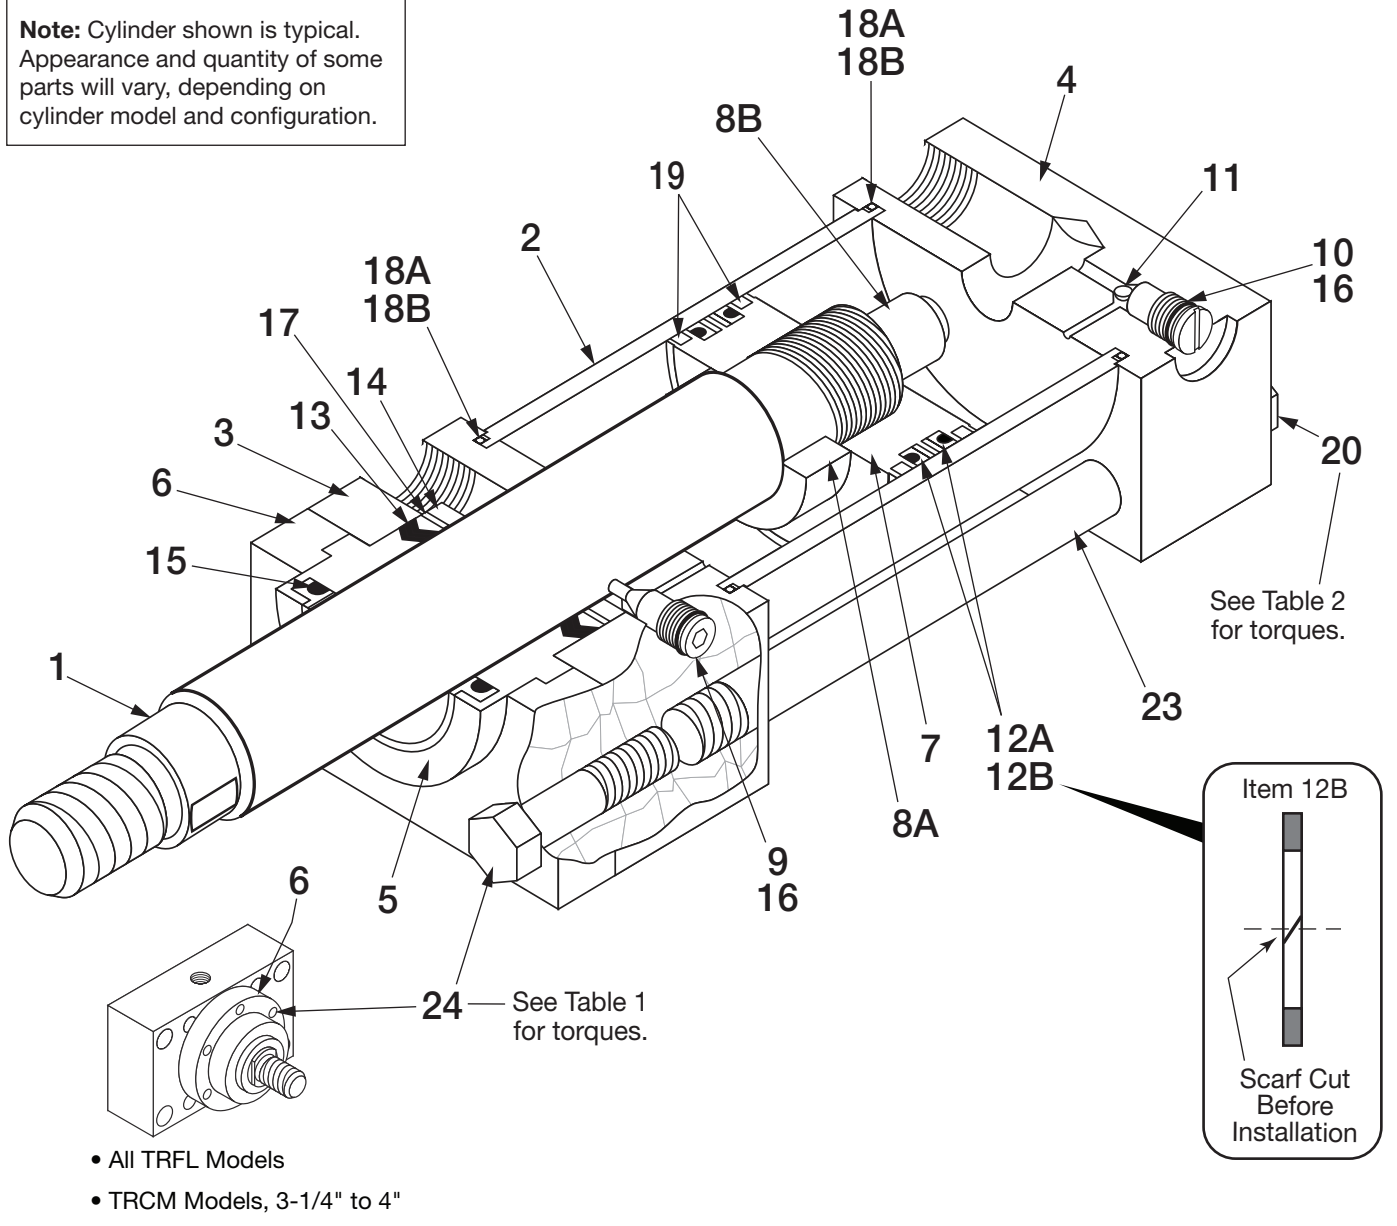

Figure 1 - Cutaway View, TR Series Hydraulic Cylinder
4. Install the new block vee seals and backup washers on the piston. Be sure to scarf cut each backup washer before assembly. Refer to the diagram in Figure 1 for details.